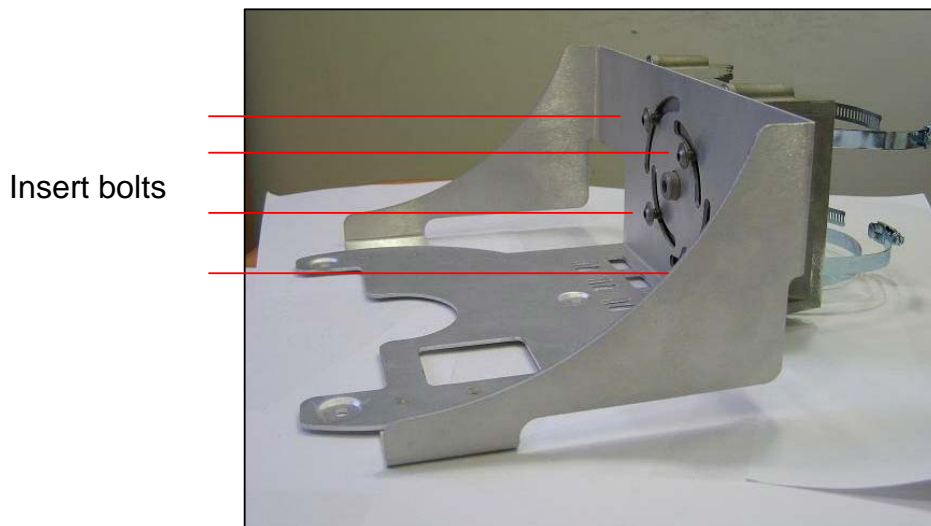

Figure 3.13. **Attaching the Tray to the Back Plate**
6. Attach the tray to the back plate as shown in Figure 3.13.